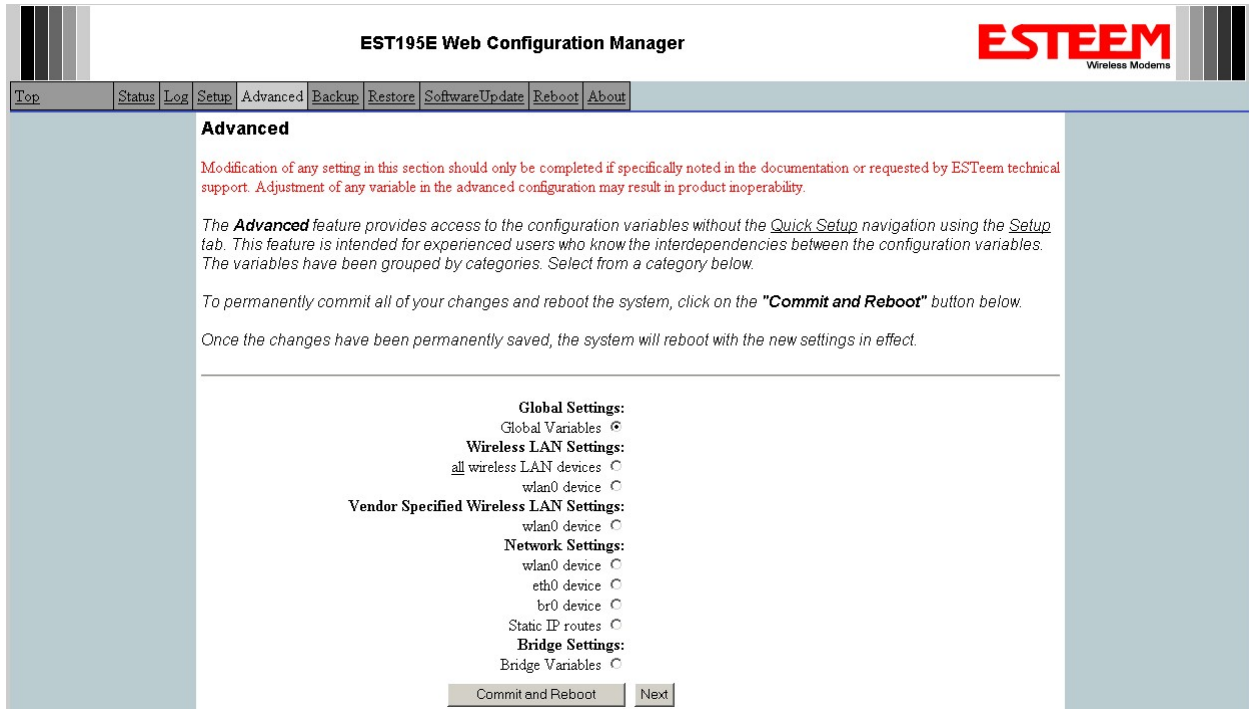

Figure 13: Advanced Settings Menu
7. To complete the configuration, select “Commit and Reboot.” The ESTeem 195Ea will now commit the configuration changes and reboot. (Figure 13)